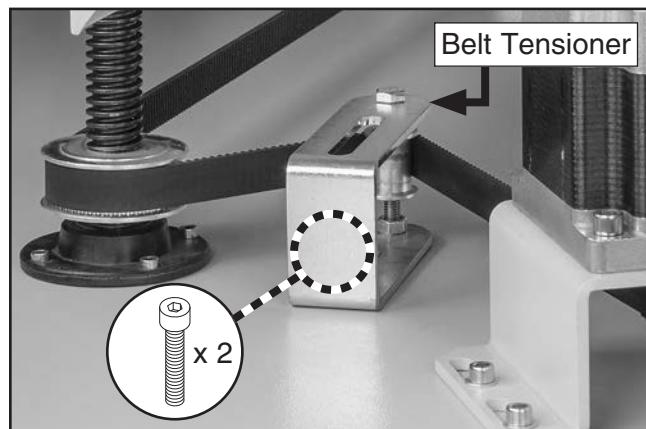

Figure 93. Z-axis belt tensioner components.
- Push belt tensioner towards belt, and then secure (2) cap screws (see **Figure 93**).